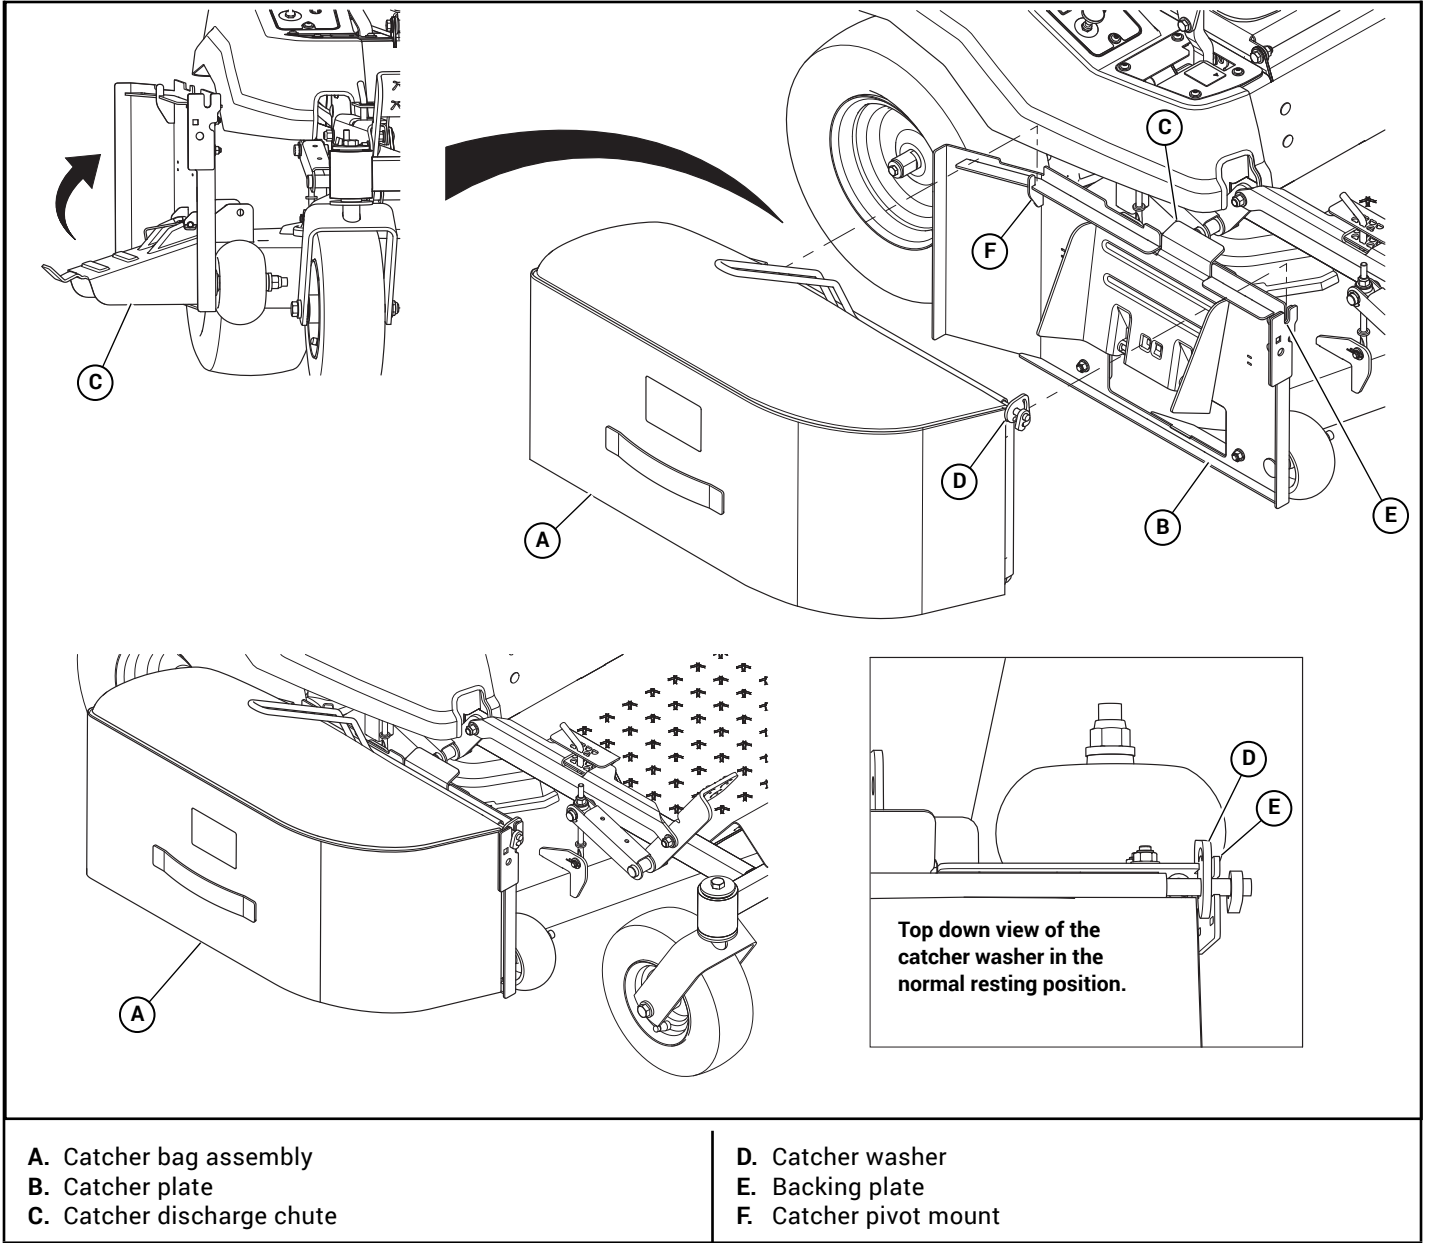

Figure 3-4
5. Rotate the catcher discharge chute to the upright position. Set the catcher bag assembly in place on the catcher plate. Figure 3-4